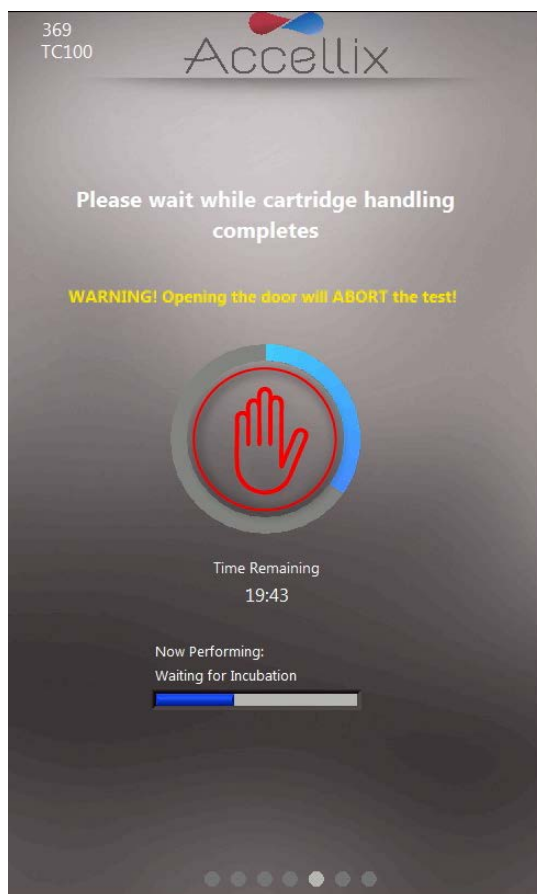
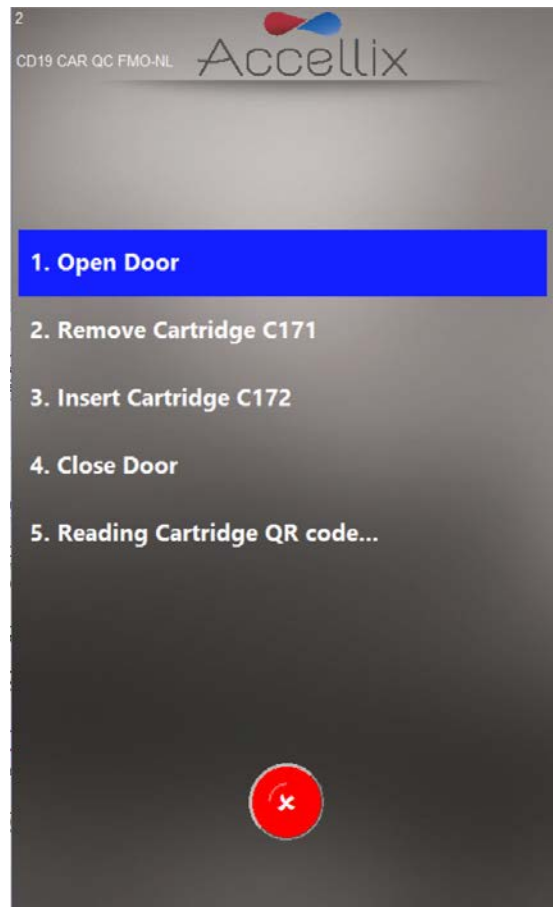

Figure 31: 'Progress Indicator and Time Remaining' screen
Figure 37: Multi-cartridge Remove Cartridge screen
12. **Progress screen** (Figure 31) displays a progress indicator and **Time Remaining** countdown timer. The operator can monitor the test progress and approximate time remaining.
Note: If an operator wishes to stop an assay while underway, this should be done by tapping **Stop**, i.e., the red hand at the center of the progress indicator (see Figure 31). Refer to *Termination of an Assay Run* section below.
- a. The **Multi-cartridge Remove Cartridge screen** instructs the operator to remove the first cartridge and insert the next cartridge in the sequence (Figure 37).
The **Stop** or **Abort** icons may be used to terminate an assay run (Figure 31 and Figure 37).